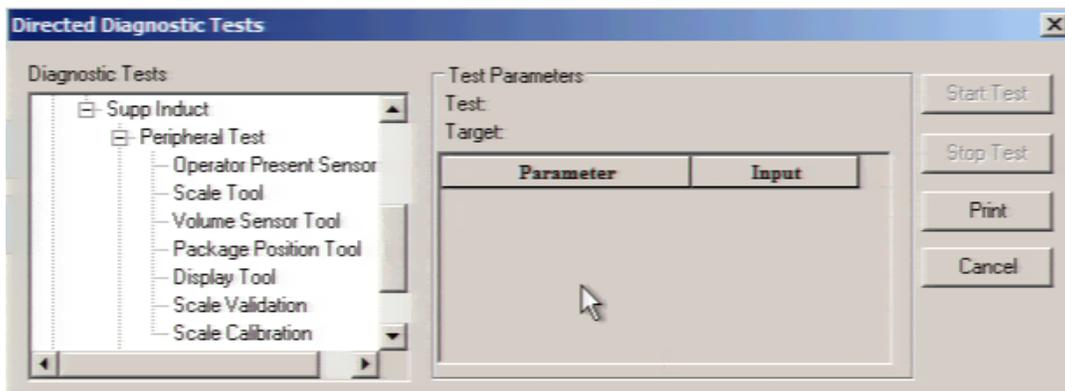

Figure 2-3. Supplemental Induct / Peripheral Test Menu Options
- Click **Supp Induct** and **Peripheral Test**. Peripheral Test directed diagnostics options are displayed (Figure 2-3).